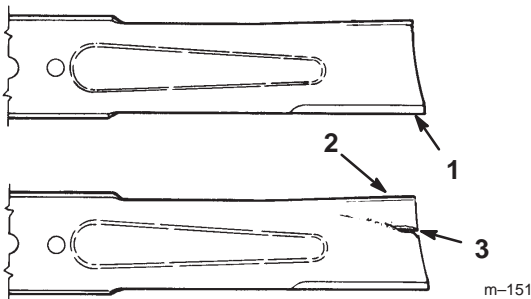

Figure 20
1. Inspect the cutting edges (Fig 20). If the edges are not sharp or have nicks, remove and sharpen the blades. Refer to Sharpening the Blades, page 27.
2. Inspect the blades, especially the curved area (Fig. 20). If you notice any damage, wear, or a slot forming in this area (item 3 in Fig. 20), immediately install a new blade.